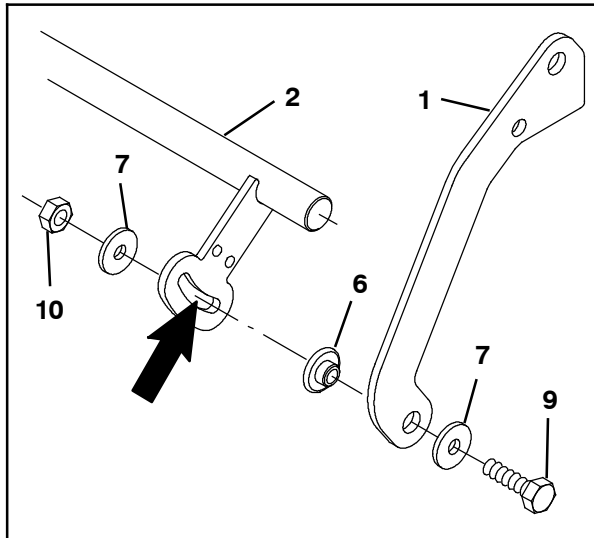

FIG. 15
28. Press the skirt pedal and observe the front flap. The front flap should easily raise when the skirt pedal is push and easily lower when the skirt pedal is released. The hinge skirt should also be vertical when the pedal is released. Loosen the M8 hex nut and M8 hex screw and adjust the plate link (1) as necessary in the arc slot in the crank shaft (2) to adjust this angle. Make adjustments as necessary if front flap is not moving freely/easily. (Fig. 15)